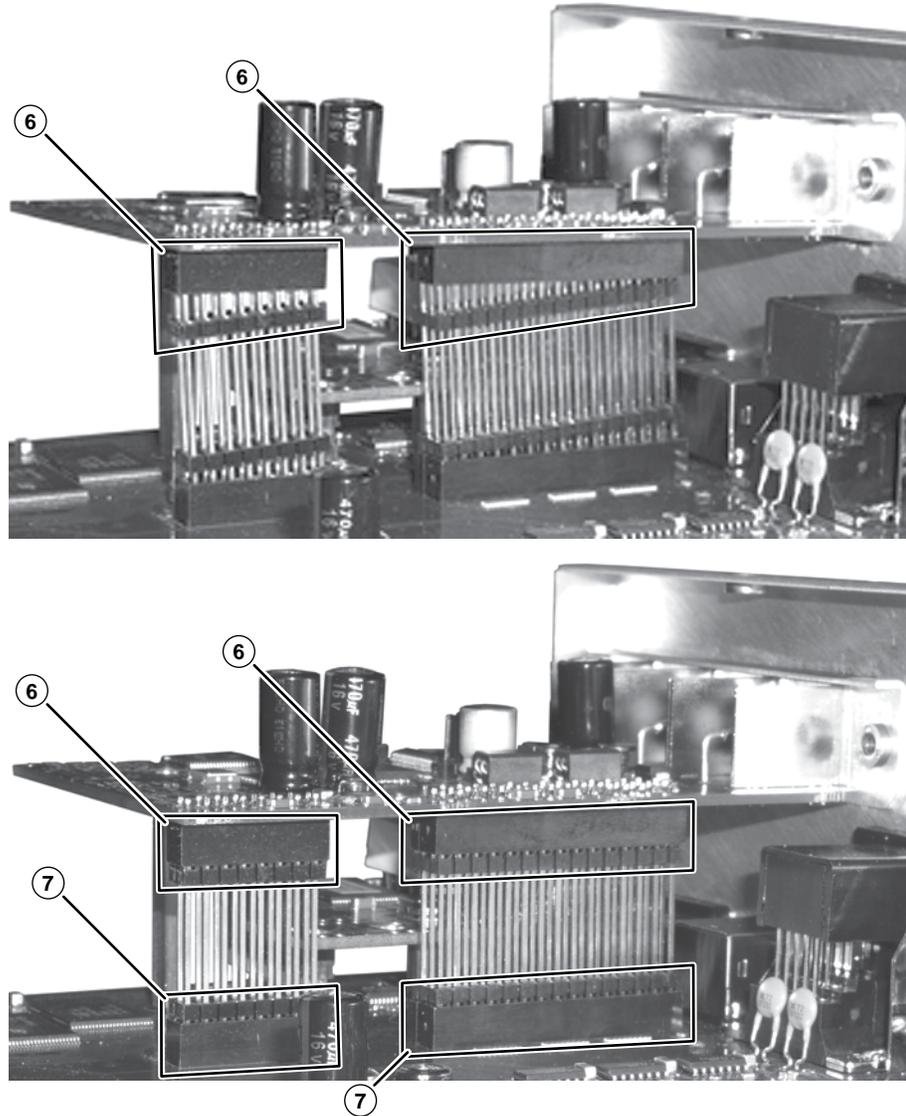

Figure 7-9 — Output board installation
5. See figure 7-9. Align the connector(s) on the output board with those on the extension(s) (Ⓒ). Gently apply pressure to carefully mate the output board with the extension(s).